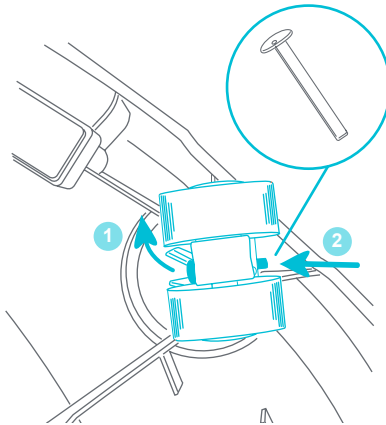

Fig. 15a
- 15** • **REMOVAL:** (1) Pull the small tab away from the pin. (2) Pull the pin out of the slots (Fig. 15a).